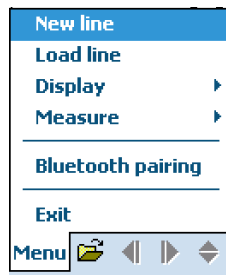

Fig. 2-5
- 2) Enter into the Program Main Interface and click “Menu”→“Bluetooth pairing” to get into the Bluetooth pairing interface (Fig. 2-5).